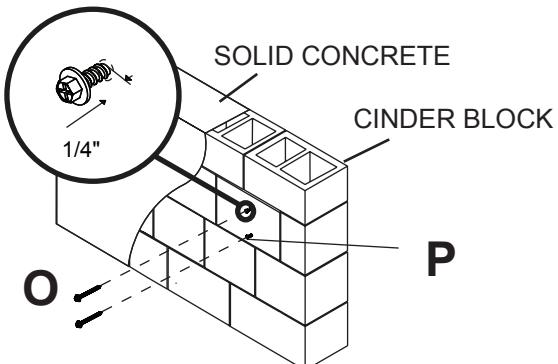

Figure. 4.3
**4** Place wall plate (B) on wall as a template. Level, and mark the center of the three mounting holes. Drill three 5/16" (8 mm) dia. holes to a minimum depth of 2.5" (64 mm). Insert anchors (P) in holes flush with wall as shown. Fasten two #14 x 2.5" wood screws (O) leaving 1/4" of thread exposed as shown in Figure 4.3.